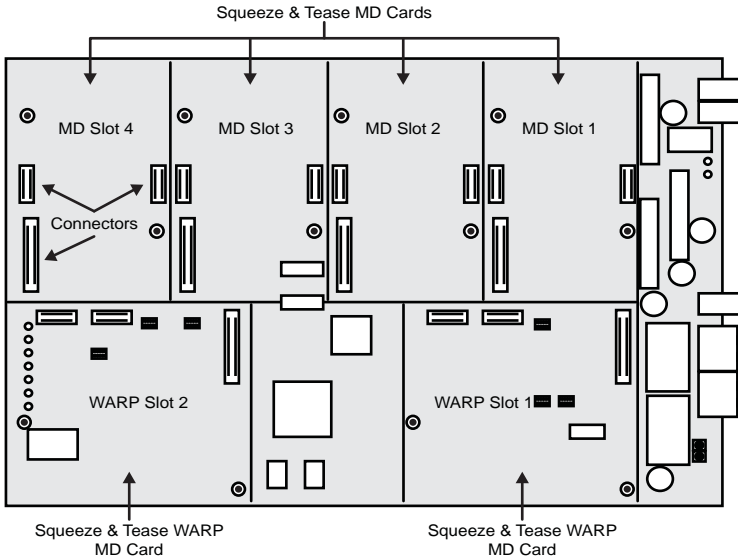

Figure 3 Squeeze & Tease Carrier Board — Daughter Card Slots
2. Locate the **Squeeze & Tease WARP MD Slot** (WARP Slots 1 and 2) on the **Squeeze & Tease Carrier Board** that you want to install the **Squeeze & Tease WARP MD Card** into (**Figure 3**). Refer to the following tables for information on where to install the **Squeeze & Tease WARP MD Card** for your frame configuration.